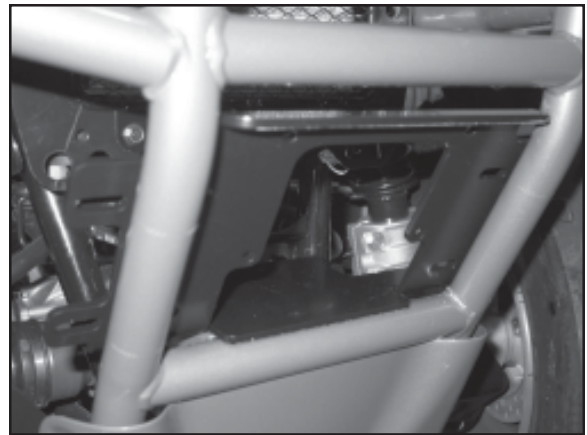
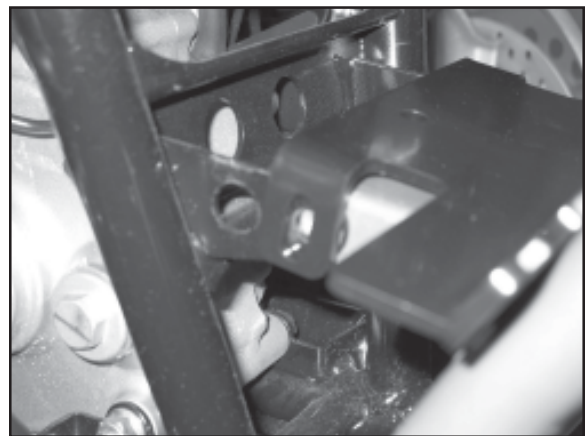

Figure 4 Place Mounting Plate
Figure 5 Attach Mounting Plate, Rear
2. Place Winch mounting plate (A1) into position and fasten the two bent down tabs to the ATV frame using the two 8mm bolts removed in step one, see figure 4, and figure 5. Do not tighten fully at this time.